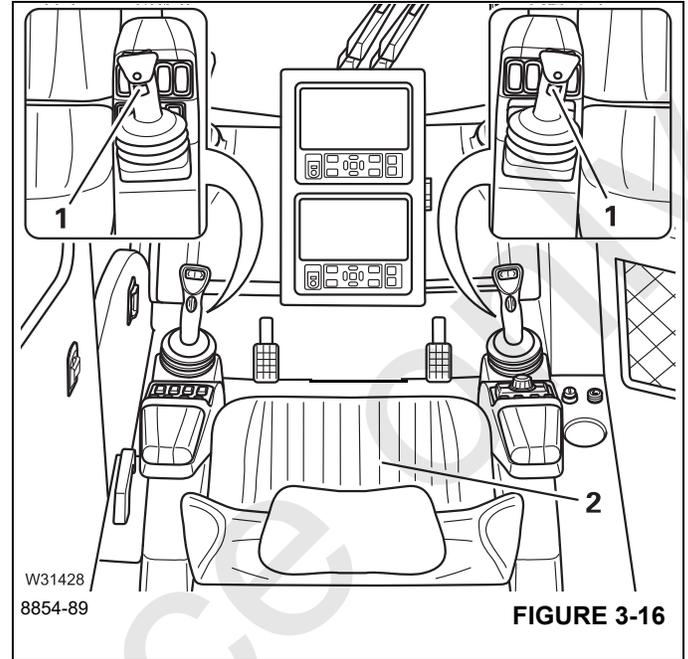

FIGURE 3-16
The Deadman Switches (1), (Figure 3-16) (Optional) are located on the front of both controllers. Either Deadman Switch can be used to keep the crane functions active when the operator stands up out of the seat (causing the seat switch to open and stop craning functions).
- Activate either dead-man switch (1), (Figure 3-16) or seat switch (2), (Figure 3-16).